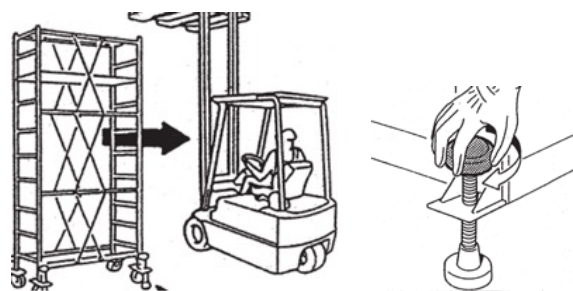

fig.132
- ▶ Move the mobile scaffold to the side and secure it with the feet. (fig.132)